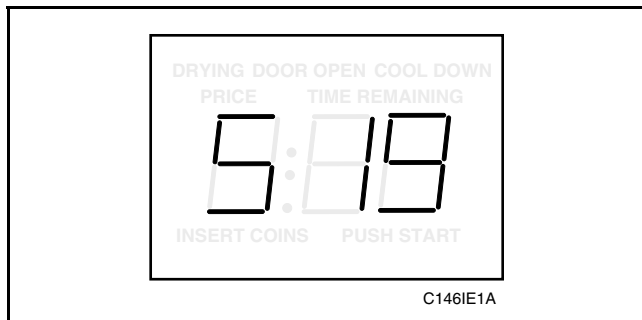

Figure 22
- While pressing and holding the HIGH TEMP pad with one hand, press the MED TEMP pad with the other hand. Programmable option number 1, (Audio Signal “SIg”), will appear in the VFD, *Figure 22*.